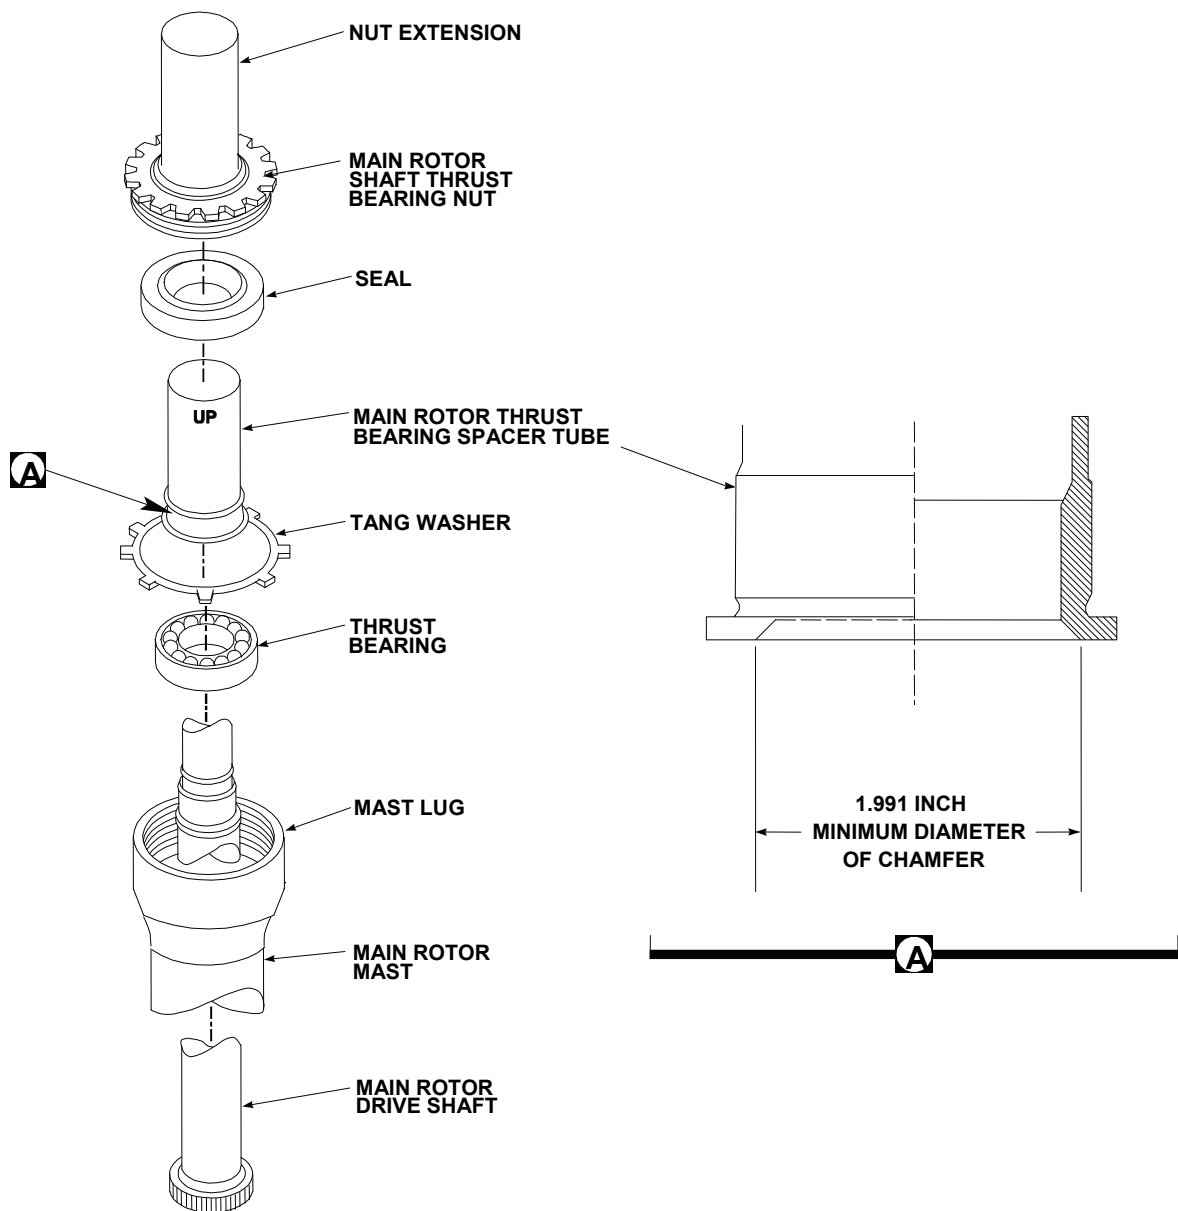

Figure 1. Main Rotor Thrust Bearing Spacer Tube Inspection
- (1) Turn off all helicopter electrical power.
- (2) Remove main rotor drive shaft thrust bearing nut and main rotor thrust bearing spacer tube in accordance with CSP-C-2, section 10 or CSP-C-10, section 10.
- (3) Inspect main rotor drive shaft journal radius directly above main rotor drive shaft thrust bearing for loss of paint or any indications of main rotor thrust bearing spacer tube contact in journal radius.
- (4) Measure chamfer in the bottom of main rotor thrust bearing spacer tube for minimum diameter of 1.991-inches (Figure 1).
- (5) As required, install serviceable main rotor drive shaft and main rotor thrust bearing spacer tube in accordance with CSP-C-2, section 10 or CSP-C-10 section 10.